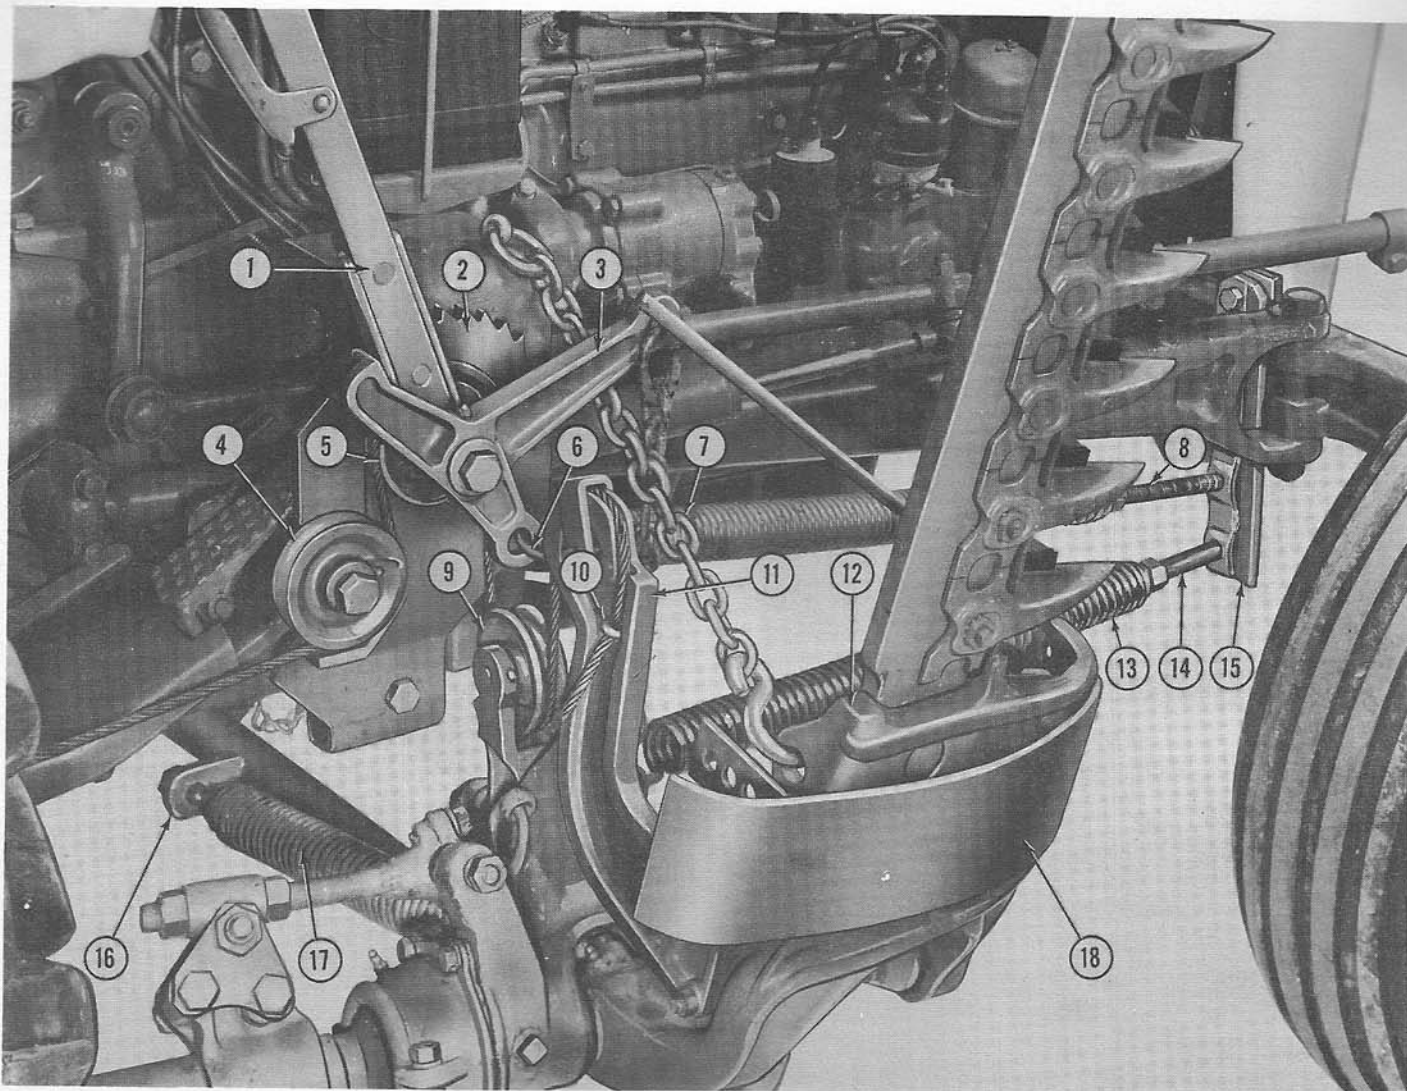
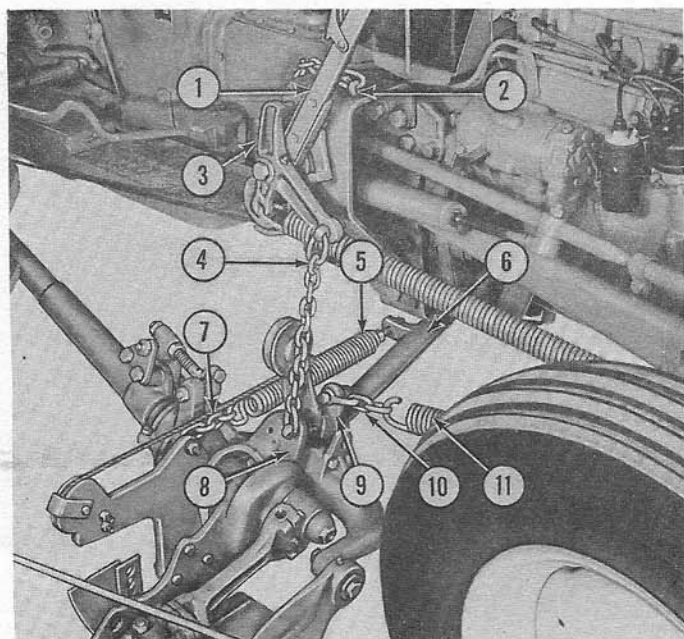

Figure 7
Figure 15
The mower is equipped with a curb lift lever (1), Figure 7, to enable the operator to raise the cutter bar with the tractor hydraulic system and set the operating height of the inner shoe without leaving the tractor seat.
Pull Spring: The cutter bar lead is built in and is 3/8" per foot of cutter bar. To maintain the proper lead, turn the adjusting bolt (14), Figure 7, into the pull spring (13) to hold the cutter bar against the stop, but not tight enough to exceed breakaway conditions.
(16), Figure 7, into the drag bar balance spring (17) until the outer shoe ground pressure is approximately 15 lbs. or until the outer end of the cutter bar can be raised easily with one hand. Secure the adjusting bolt with the lock nut. Proper balance spring adjustment will produce a semi-floating cutter bar which will slide easily over the ground without excessive sole wear.
Front Balance Spring: Turn the adjusting bolt (8), Figure 7, into the front balance spring (6) until the ground pressure on the inner shoe is approximately 50 lbs. Secure the adjusting bolt with the lock nut. With this setting, the inner shoe should be in contact with the ground and a semi-floating cutter bar should be maintained.
Curb Lift Lever: The curb lift lever (1), Figure 7, is used to maintain the operating height of the inner shoe to permit mowing at a level above that on which the tractor is traveling.
To put the side mounted mower in transport position, disengage the P.T.O. and then raise the cutter bar to a vertical position, Figure 7, with the Ford Tractor Hydraulic Touch Control Lever. Connect the safety chain in the hole on the inner shoe (12) as shown in Figure 7. Slowly lower the touch control lever until all slack is removed from the safety chain.
4. Attach the safety switch chain (6) to the drag-bar (7).
5. Secure the axle clamp (15) to the axle as shown in Figure 7. Hook the balance spring (6) on the curb lift arm (3) with the hook toward the tractor. Thread bolt (8) into the balance spring until the coils start to open. Hook the pull spring (11), Figure 15, into chain (10) and thread the bolt into it until the desired tension is obtained.
6. Attach the curb lift chain (4), Figure 15, to the curb lift lever (3) and secure with the lock washer and nut.
7. Raise the outer end of the cutter bar by hand and hook the short chain (7), Figure 15, to the drag bar balance spring (5) and lower the cutter bar to the ground.
8. Adjust the tension on the dragbar balance spring (5) until the outer end of the cutter bar can be easily raised with one hand. Adjust tension on the front balance spring (6), Figure 7, until there is approximately 50 lbs. pressure on the cutter bar inner shoe.
1. With the cutter bar in the transport position, disconnect the balance spring (5), Figure 15, from chain (7).
- Loosen bolts (8) and (14), Figure 7, until the balance spring (6) and pull spring (13) can be unhooked. Remove the axle clamp (15), bolts, and springs from the axle.